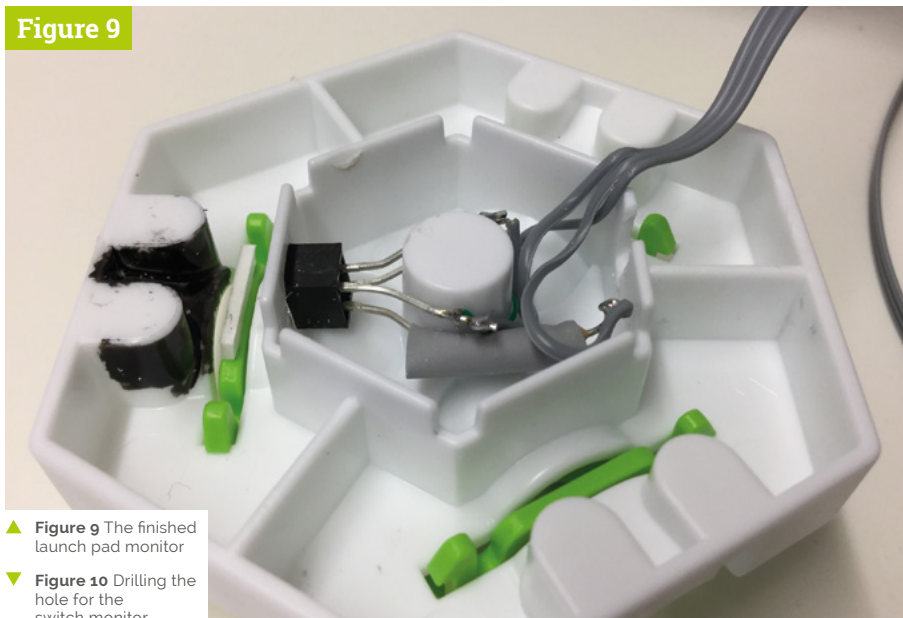

Figure 9
Take an OPB706B sensor and wrap it round the centre post in the launch pad tile (Figure 8). Push it down and use a pencil to mark the outline on the wall. Then, using a Dremel, and 1 mm router bit, cut to about 1 mm short of the outline you drew, so the part does not go through the hole. Also, cut a slot in the opposite side to let the wires through when attached to a height tile. Paint black the area the sensor is pointing at, and glue a 10×2 mm piece of 1 mm thick styrene to the green plunger with polystyrene glue (Figure 9).
- ▲ Figure 9 The finished launch pad monitor